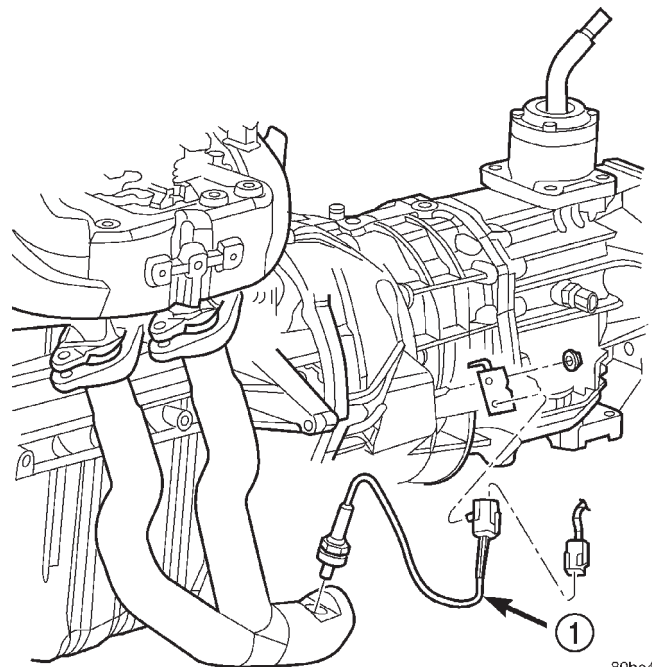
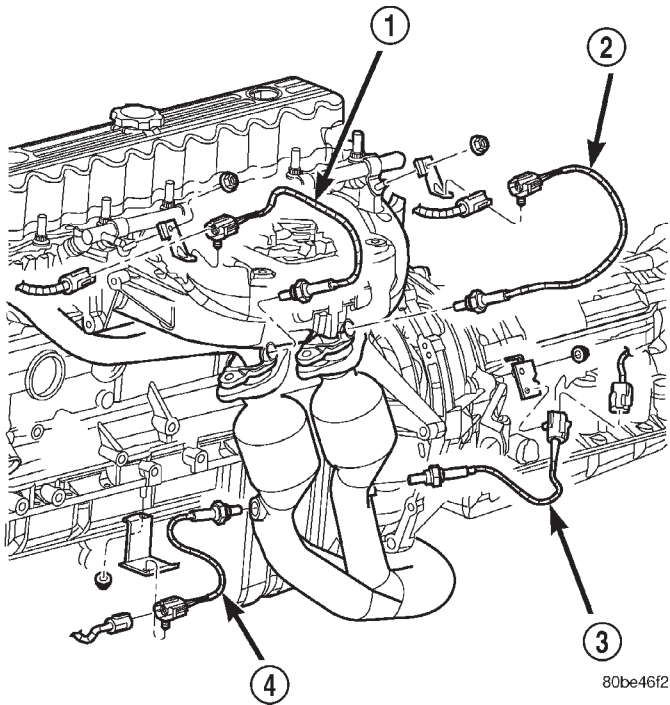
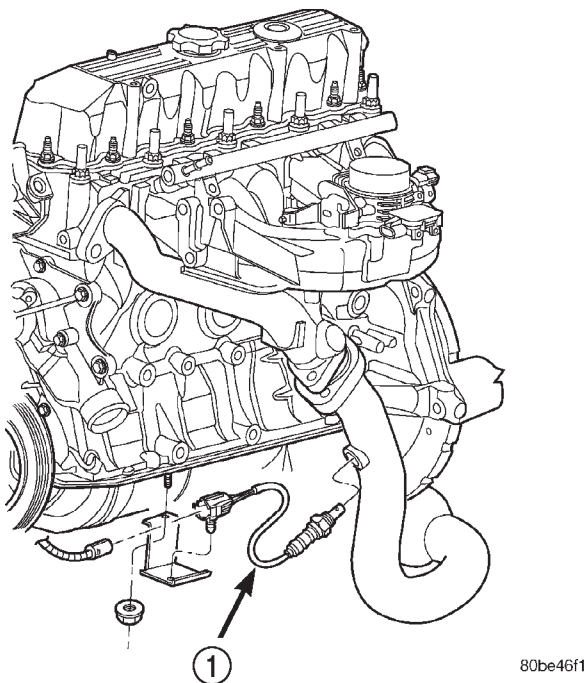
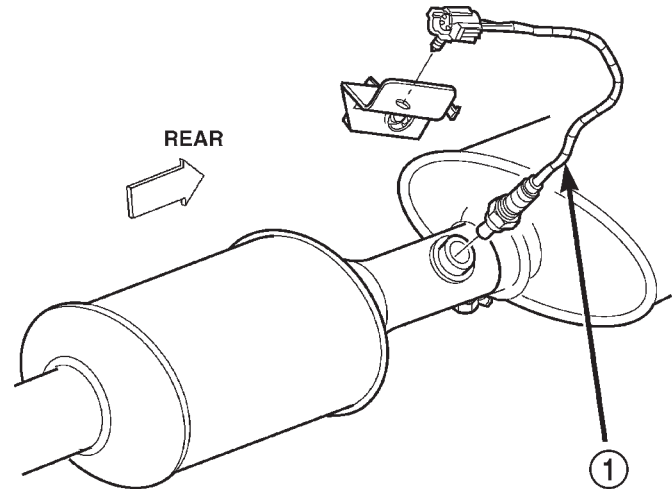

Fig. 11 Front Oxygen Sensor—4.0L—Federal Emissions
Fig. 12 Oxygen Sensors—4.0L—California Emissions
Fig. 13 Front Oxygen Sensor—2.5L—Federal Emissions
Fig. 14 Rear Oxygen Sensor—2.5L/4.0L—Federal Emissions
(23) Verify that all oxygen sensor wire connectors are firmly connected to sensors. Inspect sensors and connectors for damage (Fig. 11), (Fig. 12), (Fig. 13) or (Fig. 14).